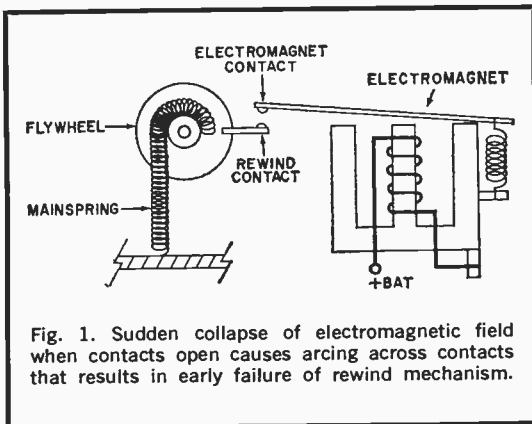

Fig. 1. Sudden collapse of electromagnetic field when contacts open causes arcing across contacts that results in early failure of rewind mechanism.
**Cause of Failure.** Details of the winding mechanism of the typical automobile clock are shown in Fig. 1. The mainspring force that operates the clock is supplied through a small flywheel. Mounted on the flywheel is a spring brush and rewind contact. The brush bypasses the rewind current around the flywheel bearings and gears to prevent damage, while the rewind contact energizes the electromagnet which rewinds the mainspring.